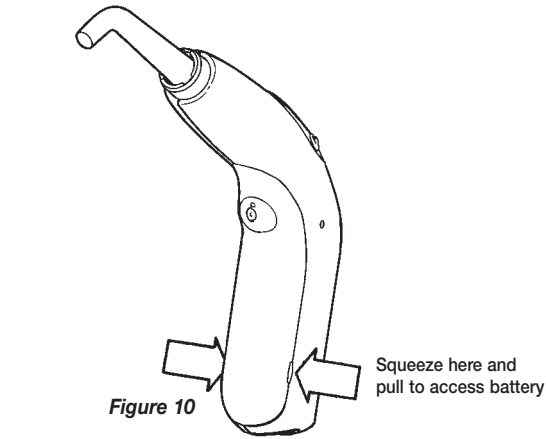
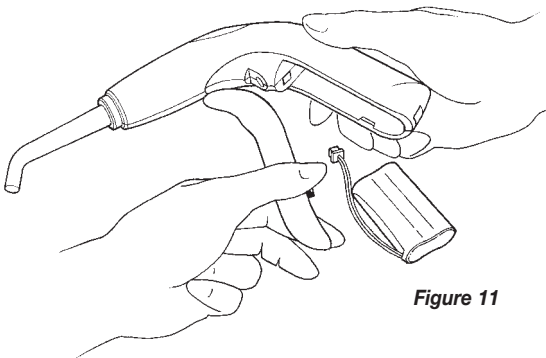

Figure 10
Figure 11
1. To replace the battery, open the battery door located in the handle of the handpiece (Figure 10). To open the battery door, squeeze with thumb and forefinger on sides of the battery door and pull outward (Figure 11).